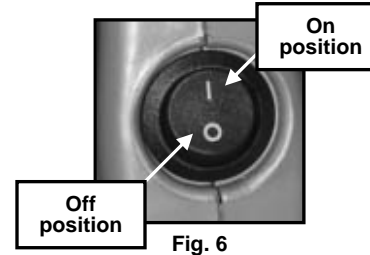

Fig. 6
- The On/Off power switch has two different positions. (Fig. 6)